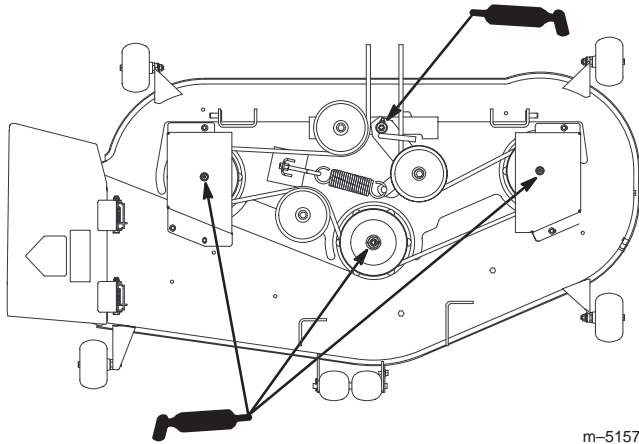

Figure 25
2. Grease the fittings on the three spindle bearings (Fig. 25).
3. Grease the idler pulley pivot (Fig. 25).